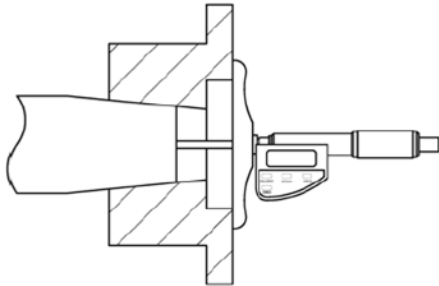

Figure 3 - Shaft end to hub face measurement example.
- 7.4. Use a depth micrometer to measure the distance from the shaft end to the hub face, as shown in Figure 3. Record the dimension.